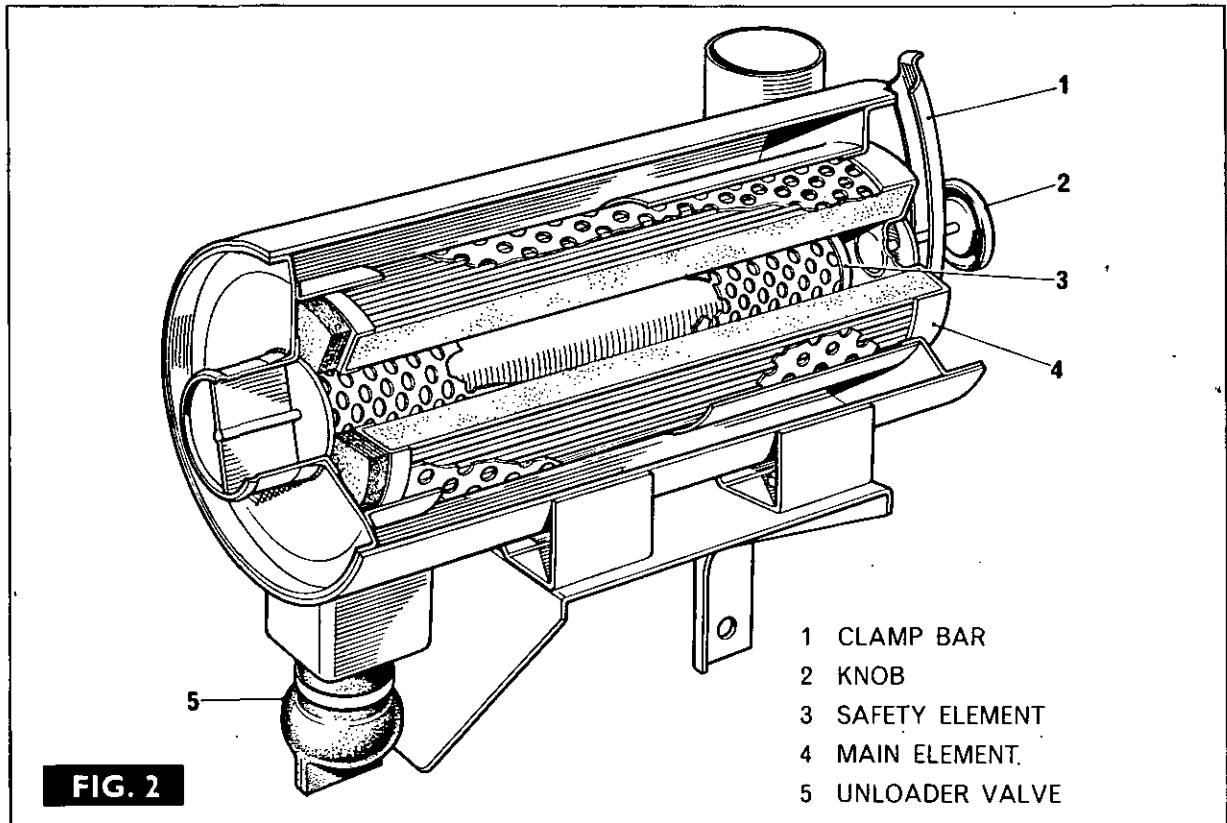

FIG. 2
2. Fig. 2. Remove the clamp bar and carefully slide out the main element.